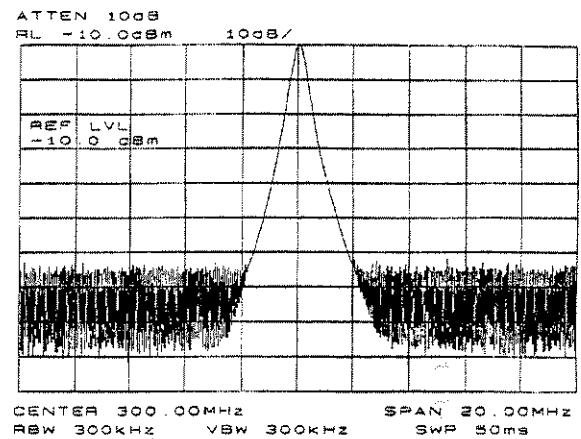

Figure 1-5. Signal Peak Set to Reference Level
3. Set the amplitude. Generally, placing the signal peak at the reference level provides the best measurement accuracy. To adjust the signal peak to the reference level (Figure 1-5), press [AMPLITUDE], then key in 10  $\text{dBm}$ , or use either the step keys or the knob. Using the knob is the easiest way of fine-tuning the signal peak to the reference level, which is at the top of the screen.